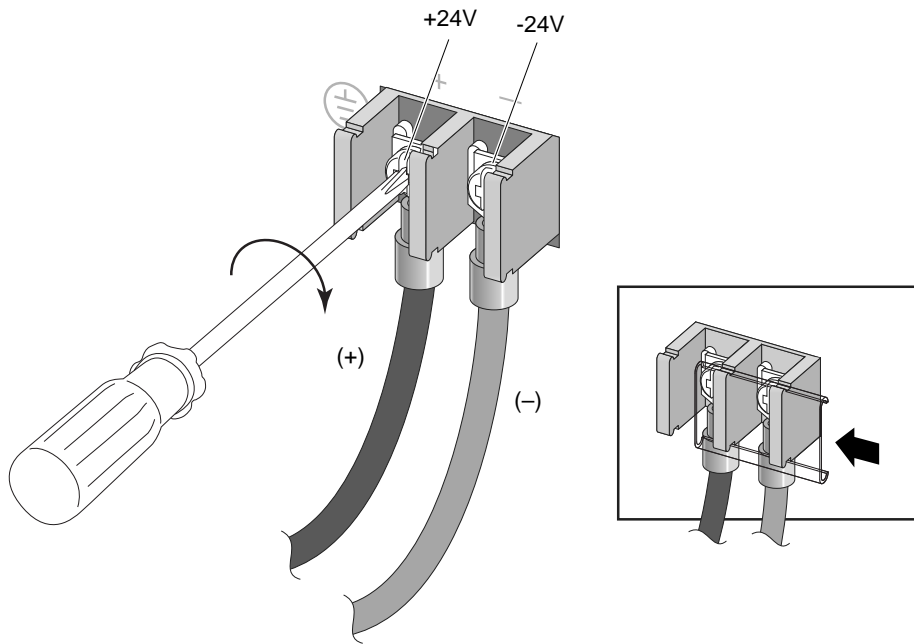

Figure 359: Connecting the DC Power Cables (Part 2)
- d Tighten both screws on the terminal block to 11 inch-pounds (see Figure 359: Connecting the DC Power Cables \(Part 2\) on page 377).
- 4 Slide the cover into place over the terminal block (see Figure 359: Connecting the DC Power Cables \(Part 2\) on page 377).